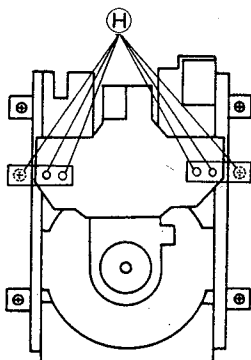

Figure 6
(1-2) Remove the six (H) screws fastening the clumper, the spring, and finally the clumper. (Figure 6)